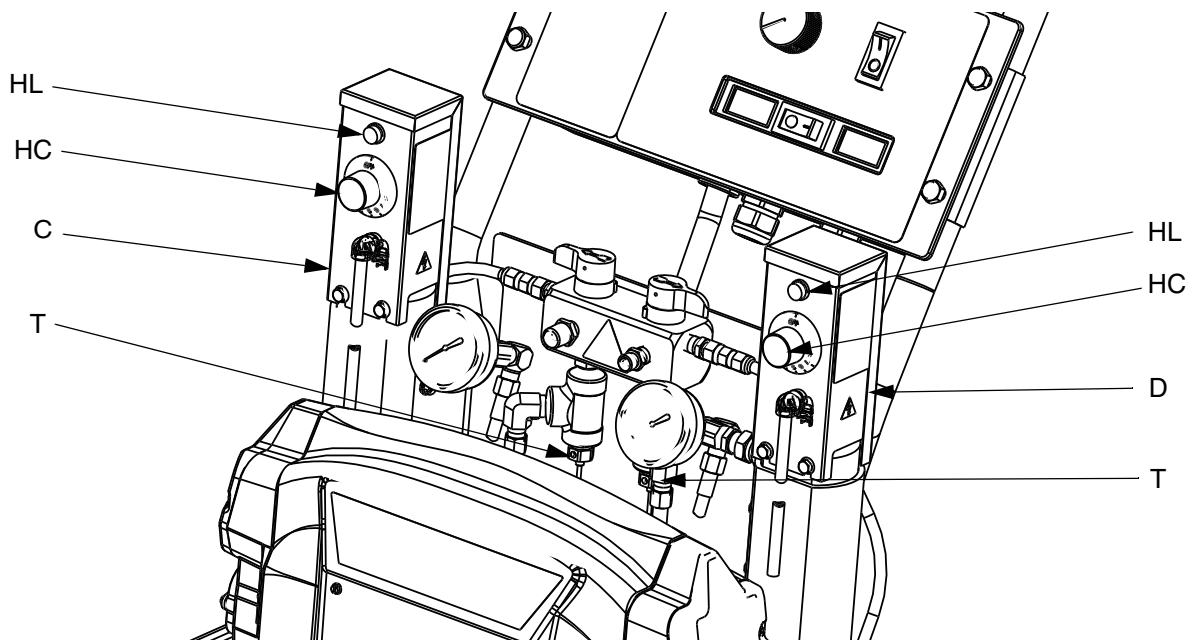

FIG. 3. Heater Temperature Controls
See FIG. 3. Control knobs (HC) set temperature of component A and B heaters. Indicator lights (HL) turn on when thermostats are heating, and off when heater reaches setpoint.